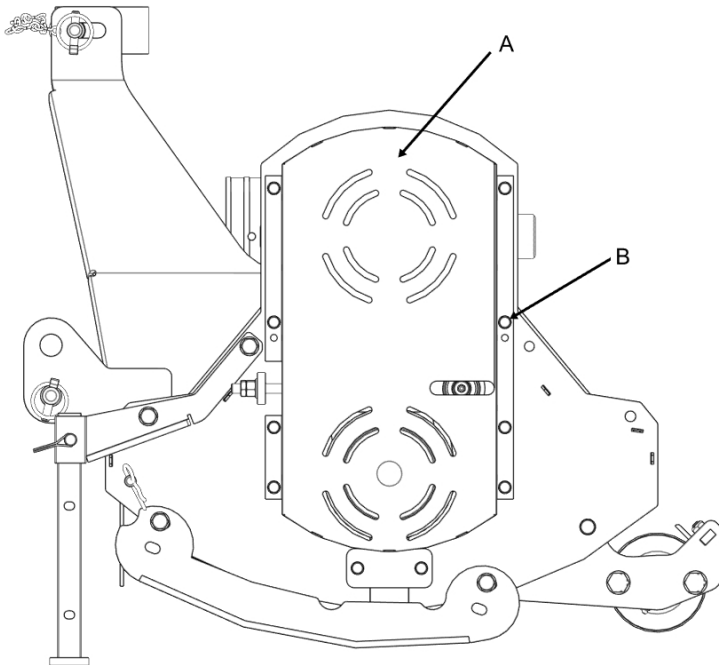
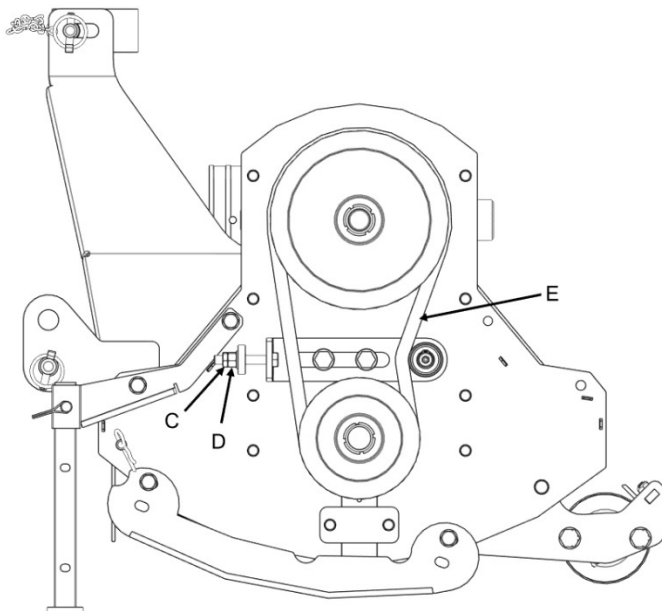

Fig. 12a
Fig. 12b
a) To adjust the tension of the transmission belts (refer to Fig 12a and Fig 12b):